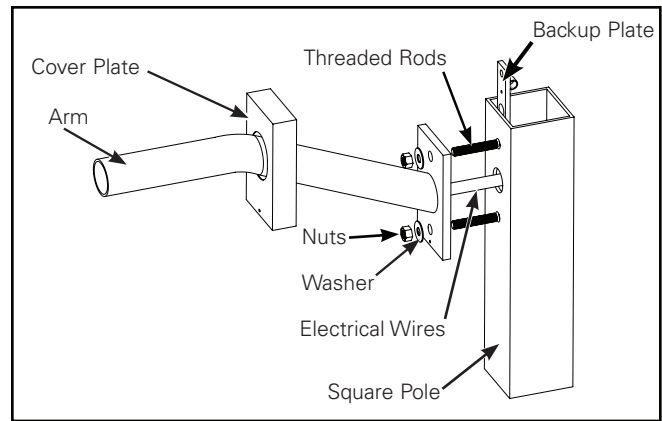
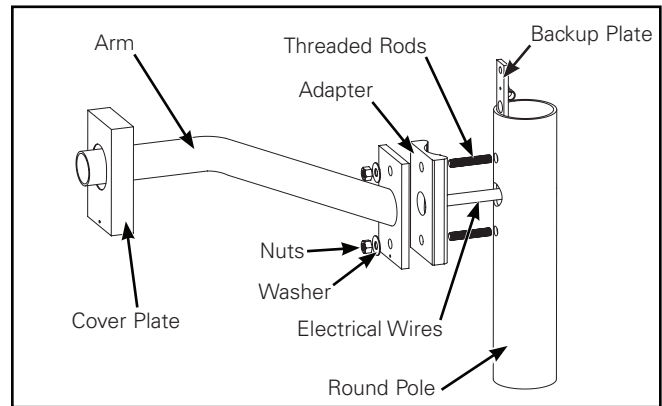

Figure 7.
Figure 8.
Mast Arm: Square Pole (Figure 7.) and Round Pole (Figure 8.)
3. For round poles only - Install round plate adapter with round side facing pole (Figure 8.). Align holes top and bottom.
2. For round poles only - Install round plate adapter with round side facing pole (Figure 7.). Align holes top and bottom.